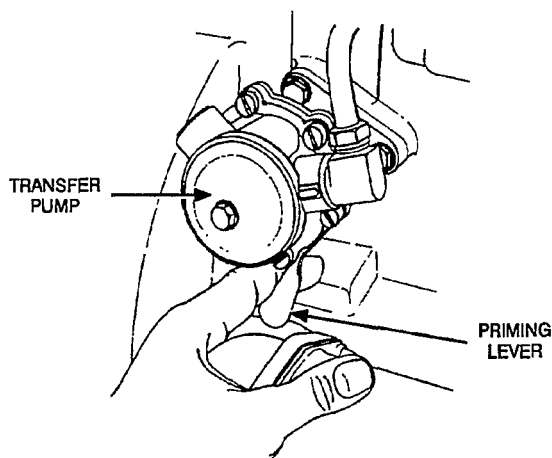

FIGURE 4-5. FUEL TRANSFER PUMP
2. Actuate the transfer pump priming lever until fuel flows from the fitting. See Figure 4-5. **Note:** If the pump pushrod is on the high part of the camshaft lobe, crank the engine over one revolution to permit hand operation.